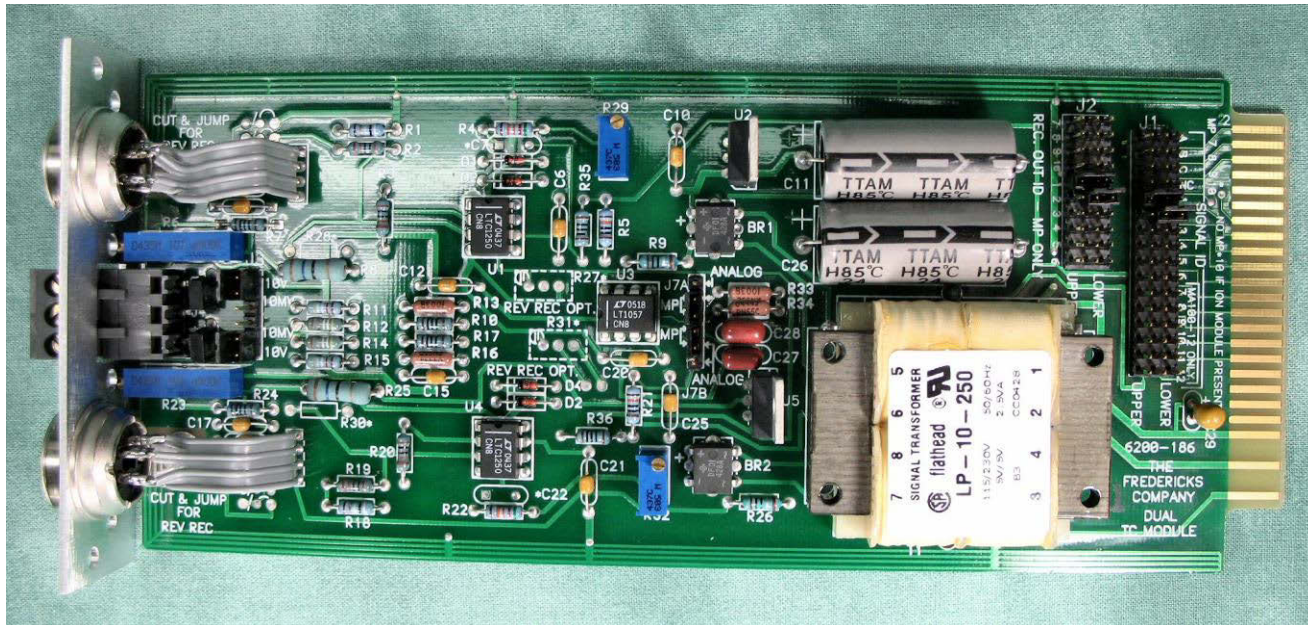

Fig. 9.3a - Thermocouple Module
THERMOCOUPLE MODULE - A thermocouple module is shown in Fig. 9.3a and 9.3b. This module is typical of all modules. The assignment of station identification numbers on a thermocouple module is accomplished by placing jumpers across the appropriate pins in the SIGNAL ID and the REC OUT ID sections. The upper thermocouple station has been named station #3 and the lower thermocouple station has been named station #4. Also two (2) jumpers are placed in the "MP" positions of the ANALOG/MP section of the board.